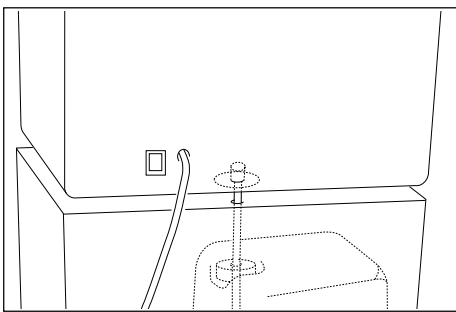

Fig. 7
- Insert the suction tube contained in the cabinet into the connection fitted under the equipment (Fig. 7).